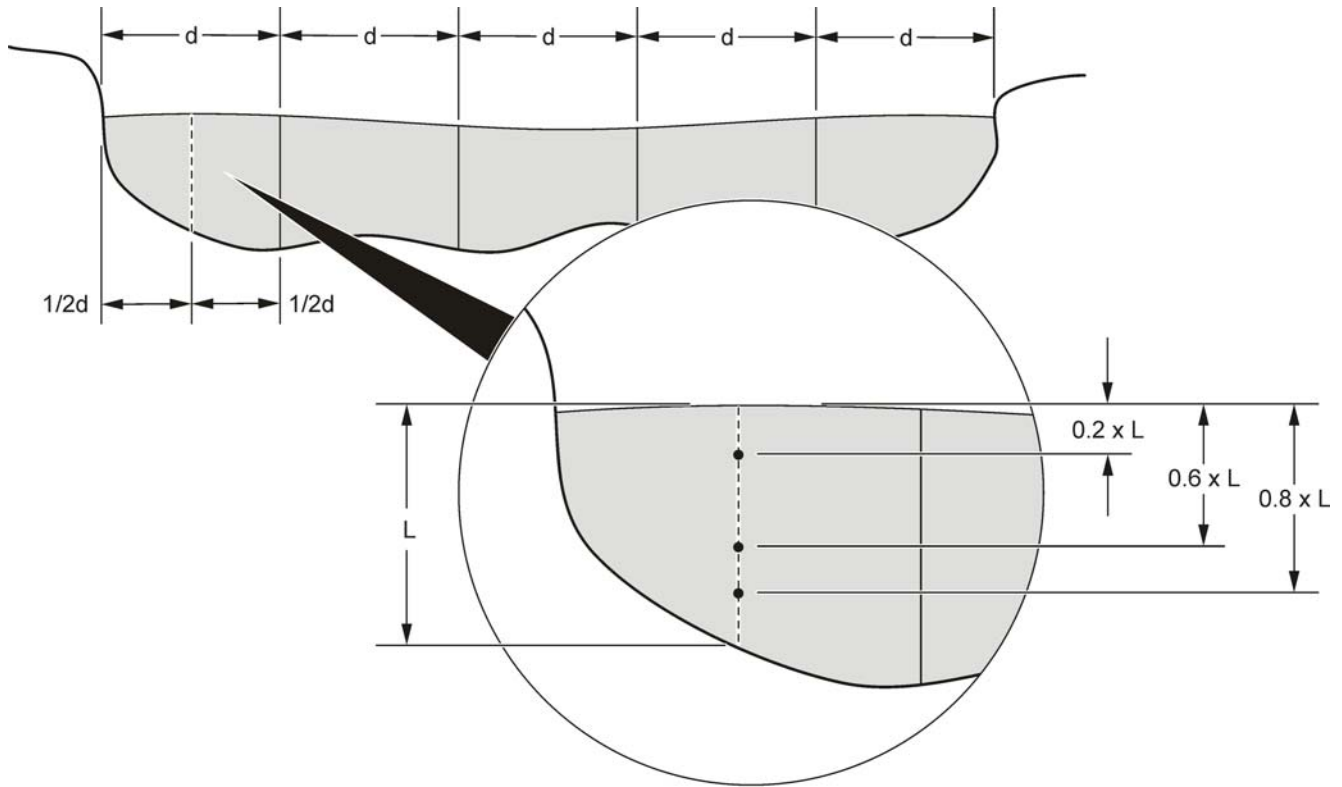

Figure 16 Segments for a river or stream
- a. Divide the width of the channel into segments of equal length (d). Refer to Figure 16 on page 34.